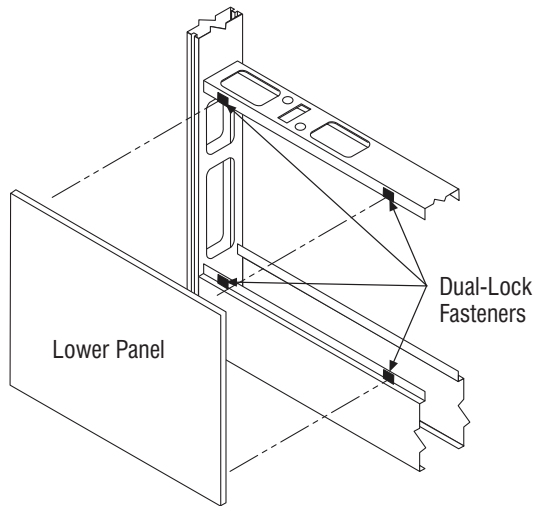

Figure 3-22 Lower Facing Inserts, Steel
3. Remove the mating dual-lock strips from the back of the panel and apply to the correct locations on the frame. See Figure 3-22.